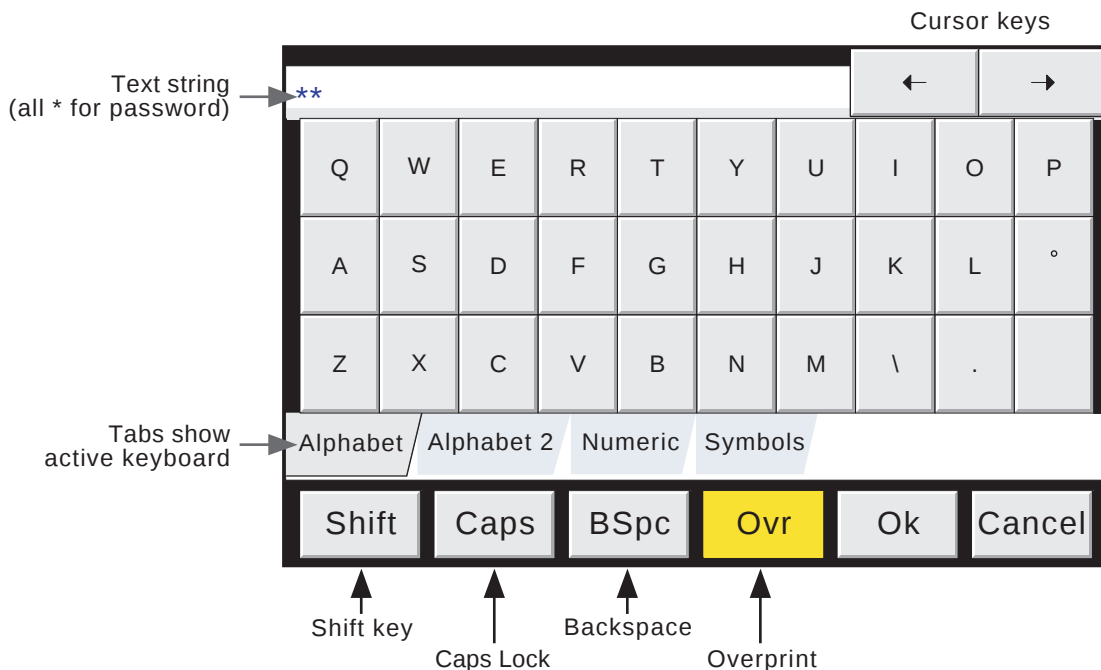

Figure 3.3.1b Alphabet 1 keyboard
- 3 Touch the blank Password area to call the keyboard display (see figure 3.3.1b).
①
The keyboard which appears when the password area is touched is the same as that which appears when any non-numeric text string entry is required (e.g. channel descriptor). Figures 3.3.1b and 3.3.1c below are an attempt, within the limitations of the illustrating process, to depict the available keyboards and thus the available character set. Actual entry of the text string is by touching the relevant key. For items which require only a numeric entry (e.g. channel range) the numeric keyboard appears.